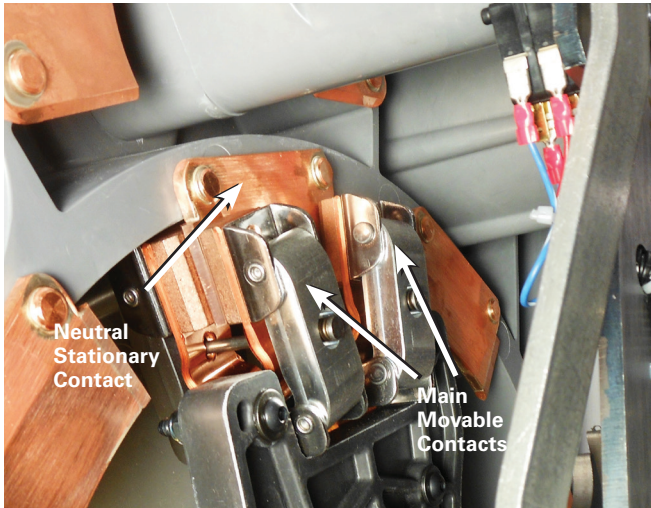

Figure 9. Neutral stationary contact position for main movable contacts.
- A. Main movable contacts are located on the neutral stationary contact, which is located at the 11 o'clock position. See Figure 9.